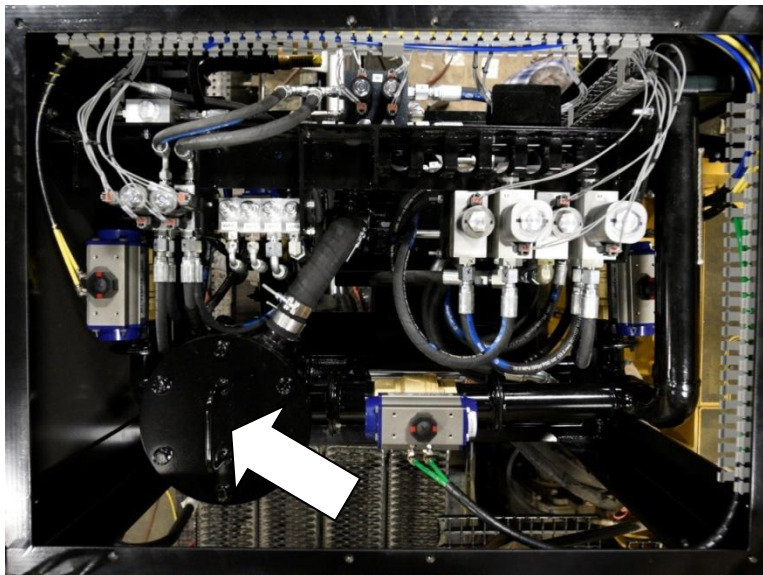

Figure 48: Strainer housing, top view
2. Remove the strainer housing cover (see Figure 48).